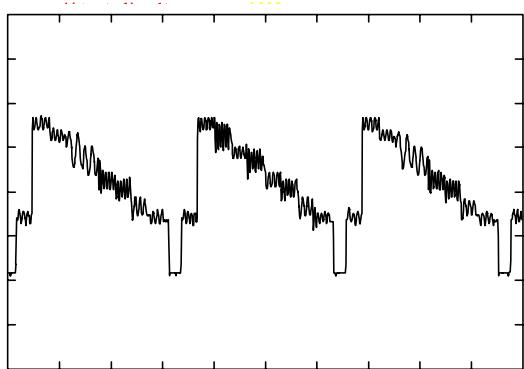

figure 2
- The observed image corresponds to three complete 64 μ s TV lines. The synchronization pulse, the chrominance burst and the video content are clearly visible (figure 2).